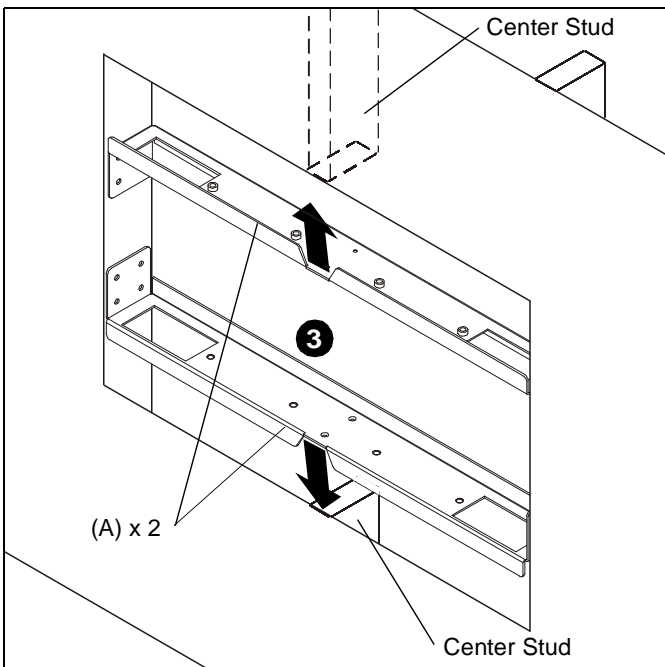

Figure 4
3. Raise and lower brackets (A) until brackets rest against center stud. (See Figure 4)